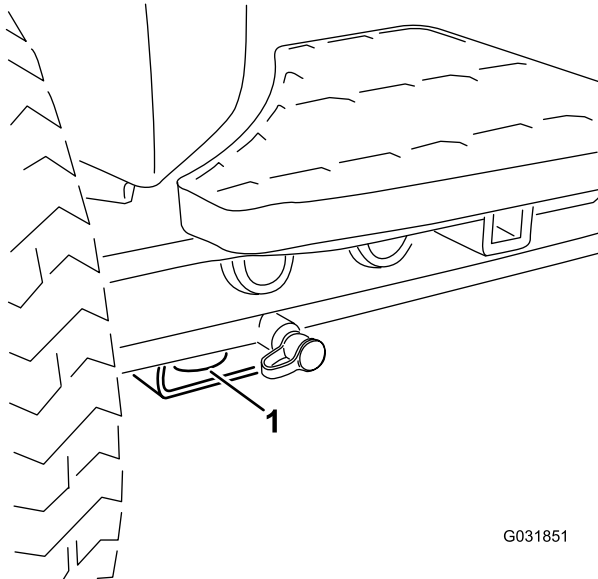

Figure 54
- **Front of the machine**—the hole in the rectangular pad, under the axle tube, inside each front tire (Figure 54).